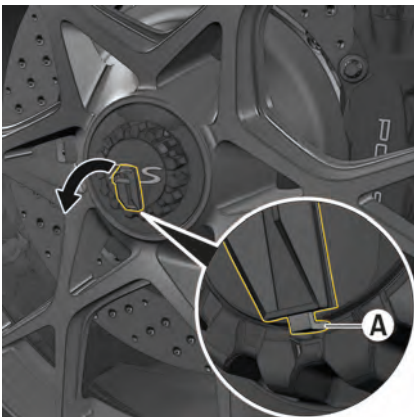

Fig. 196: Lever out the cover with the auxiliary tool
4. Carefully lever the cap out of its seating using the auxiliary tool. Insert the metal tongue deep into the opening groove **A** (Fig. 196) on the central bolt. Then swivel the auxiliary tool back more than 90°.